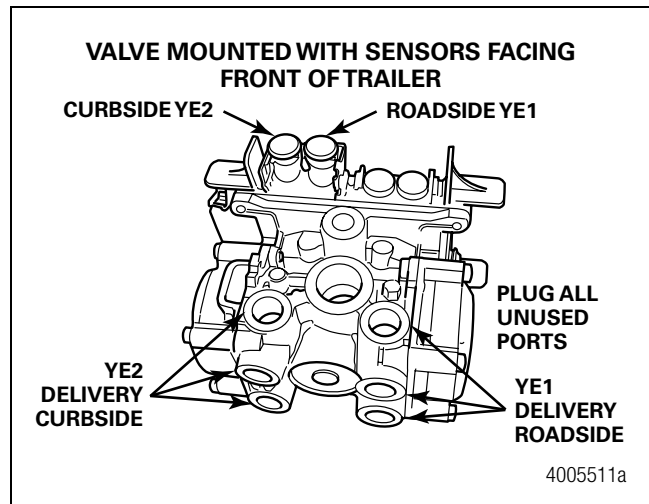

Figure 36
- If the ECU/modulator valve assembly is mounted with the sensors facing the FRONT of the trailer, the air lines for the three delivery ports located under the YE2 sensor connector must be routed to CURBSIDE; the air lines for the three delivery ports on the opposite side of the valve must be routed to ROADSIDE. Figure 36.